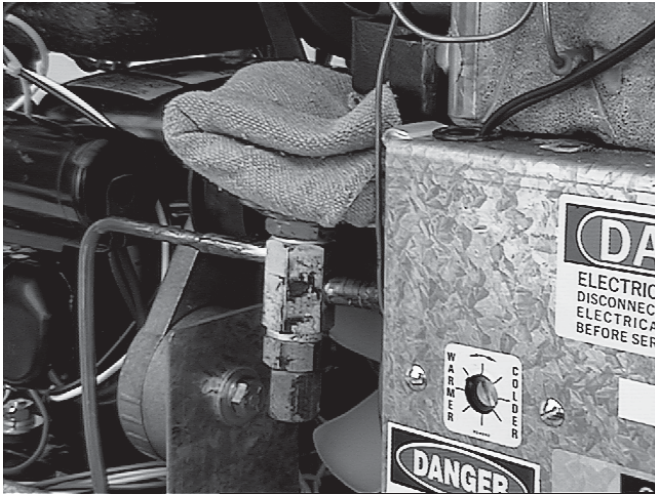

Figure 20. Heat Sink
6. Apply a heat sink (wet cloth) to the valve dome. Figure 20.